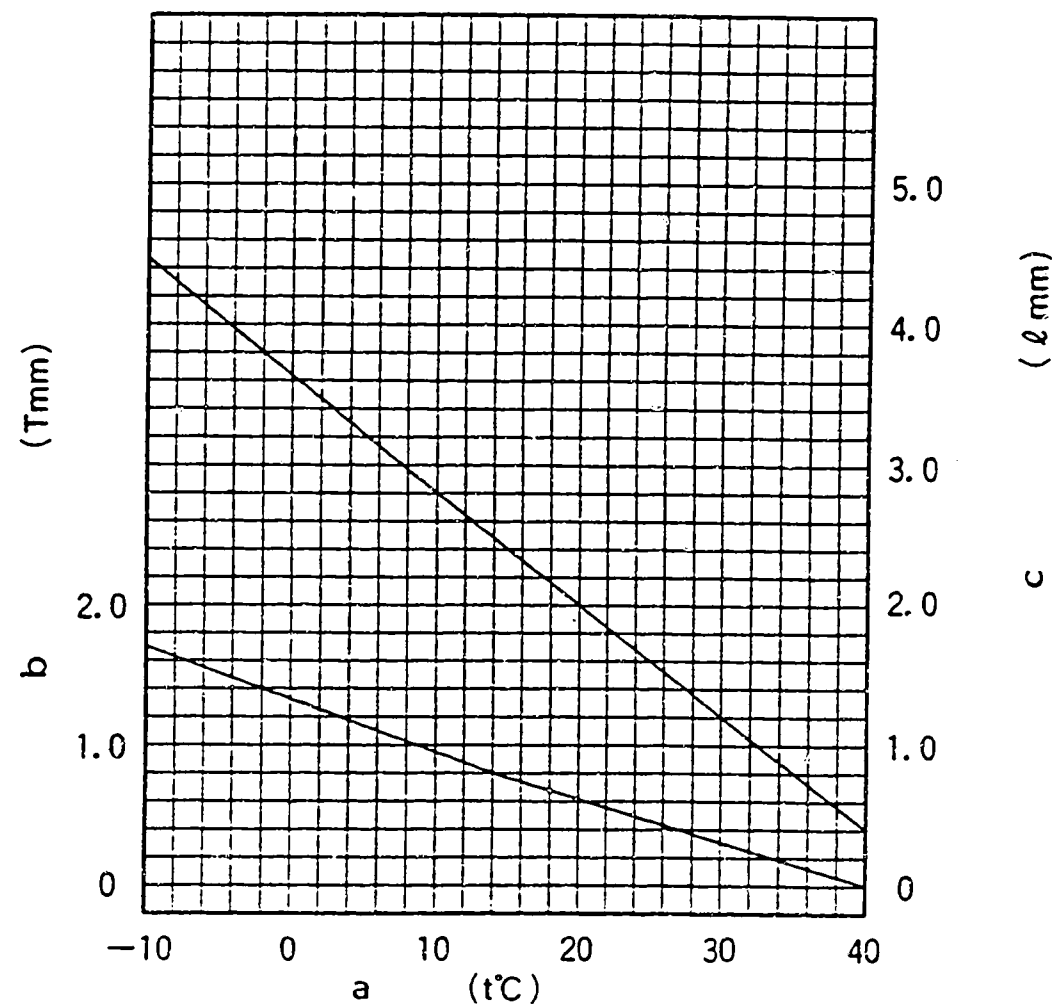

Figure 35
1) Calculate the timer stroke from Fig. 35 (diagram) according to the atmospheric temperature at the time of adjustment.